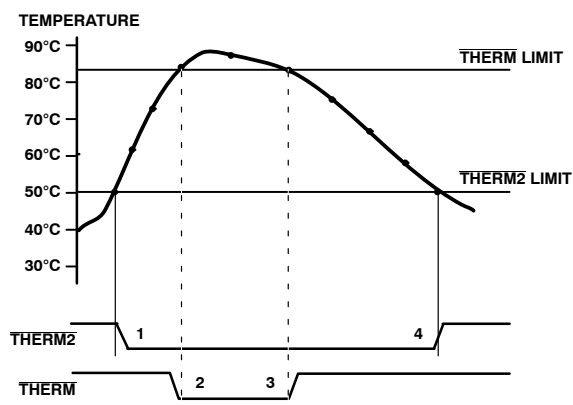

Figure 20. Operation of the $\overline{\text{THERM}}$ and $\overline{\text{THERM2}}$ Interrupts
Figure 20 shows how $\overline{\text{THERM}}$ and $\overline{\text{THERM2}}$ operate together to implement two methods of cooling the system. In this example, the $\overline{\text{THERM2}}$ limits are set lower than the $\overline{\text{THERM}}$ limits. The $\overline{\text{THERM2}}$ output is used to turn on a fan.
- The $\overline{\text{THERM}}$ output deasserts (goes high) when the temperature falls to $\overline{\text{THERM}}$ limit minus hysteresis. In Figure 20, there is no hysteresis value shown.